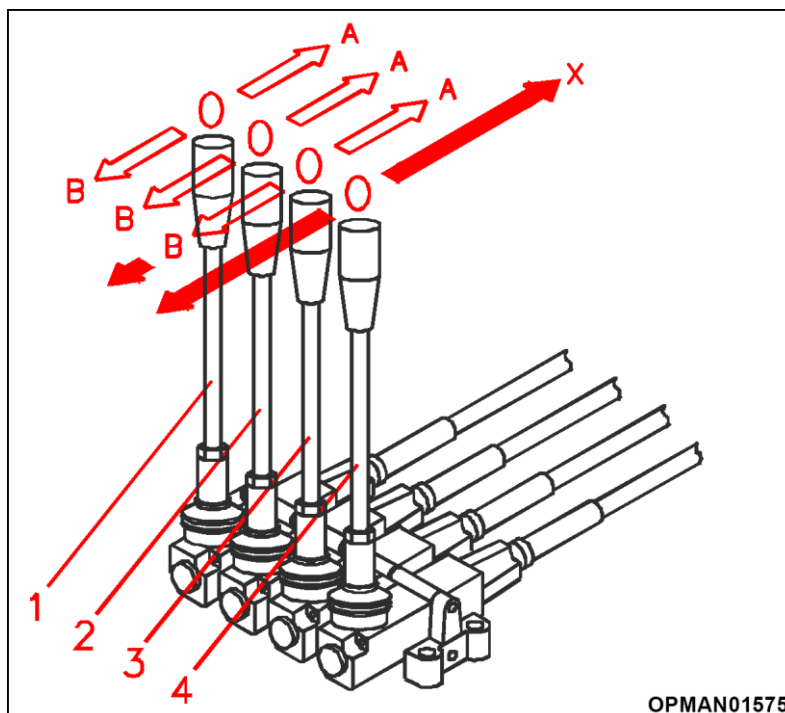

Figure 4.1
With reference to Figure 4.1, on Twiga Mini S26 and S37 models, the control levers (1, 2, and 3) can be shifted from the neutral "0" position to A or B and they automatically return to the neutral "0" position once they are released. Lever (4) controls the rotation of the rotor and has a mechanical lock at the end of its stroke in both the X and Y positions.